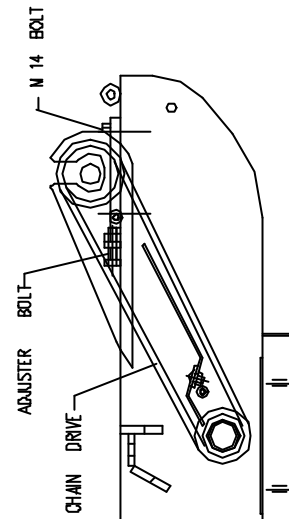

Fig. 3
- Roller Drive chain: Adjust after first days work then check/adjust every 50 hours. See Fig. 3